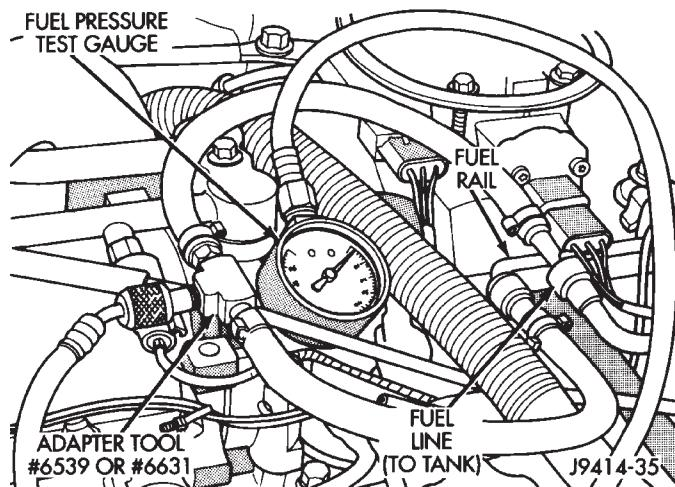
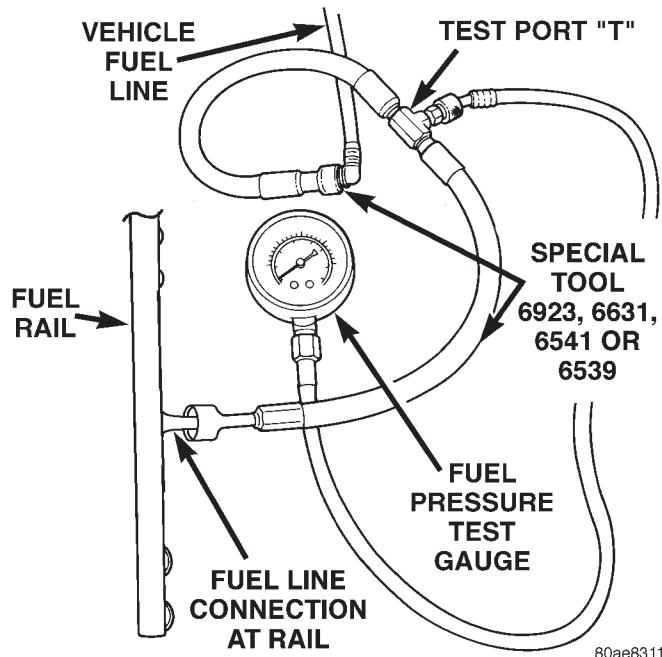

Fig. 8 Connecting Adapter Tool—Typical
Fig. 9 Connecting Adapter Tool—Typical
(1) Disconnect the fuel inlet line at fuel rail. Refer to Fuel Tubes/Lines/Hoses and Clamps in this section of the group for procedures. On some engines, air cleaner housing removal may be necessary before fuel line disconnection.
(2) Connect the appropriate Fuel Line Pressure Test Adapter Tool (number 6539, 6631, 6541 or 6923) between the disconnected fuel line and fuel rail (Fig. 8) or (Fig. 9).
(3) Connect the 0–414 kPa (0–60 psi) fuel pressure test gauge (from Gauge Set 5069) to the test port on the appropriate Adaptor Tool. **The fittings on both tools must be in good condition and free from any small leaks before performing the proceeding test.**
(4) Start engine and bring to normal operating temperature.
(5) Observe test gauge. Normal operating pressure should be $339 \text{ kPa} \pm 34 \text{ kPa}$ ($49.2 \text{ psi} \pm 5 \text{ psi}$).
(6) Shut engine off.
(7) Pressure should not fall below **30 psi for five minutes.**